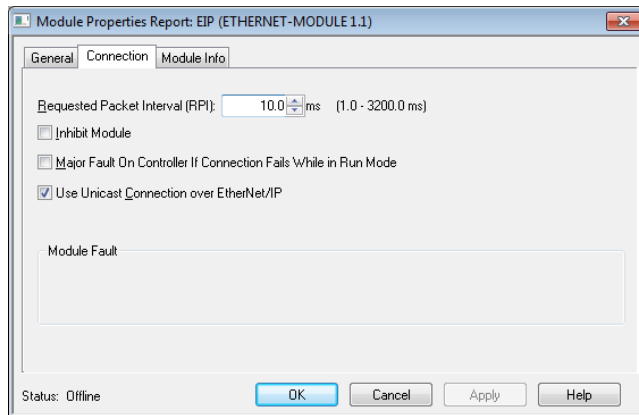

Figure 27: Module Properties Connection Tab
- 5) You should now see the new module (named “ETHERNET-MODULE Interface_Card”) in the 1756-ENBT branch under the I/O Configuration in the controller organizer view. Right click on this new module, choose “Properties”, and select the Connection tab. Refer to Figure 27.